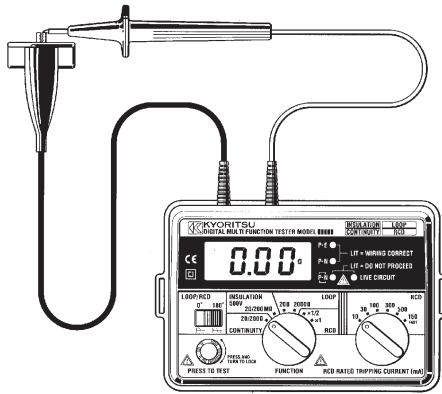

Fig 2
2. Connect the ends of the test leads in use firmly together (see Fig 2 ) and operate the test button.